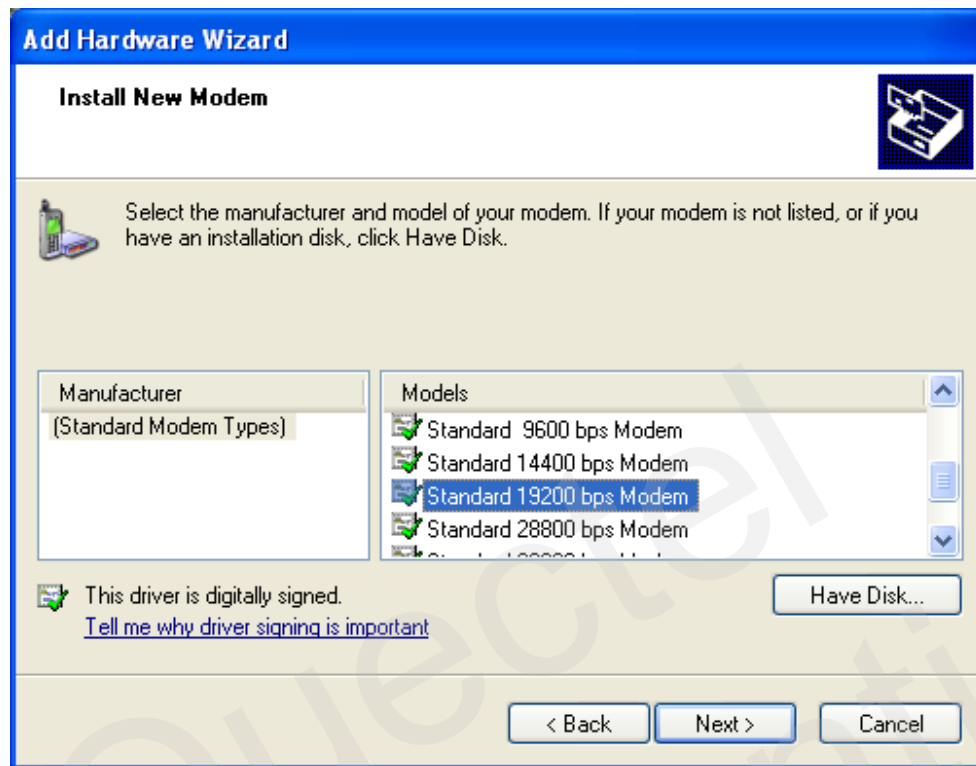
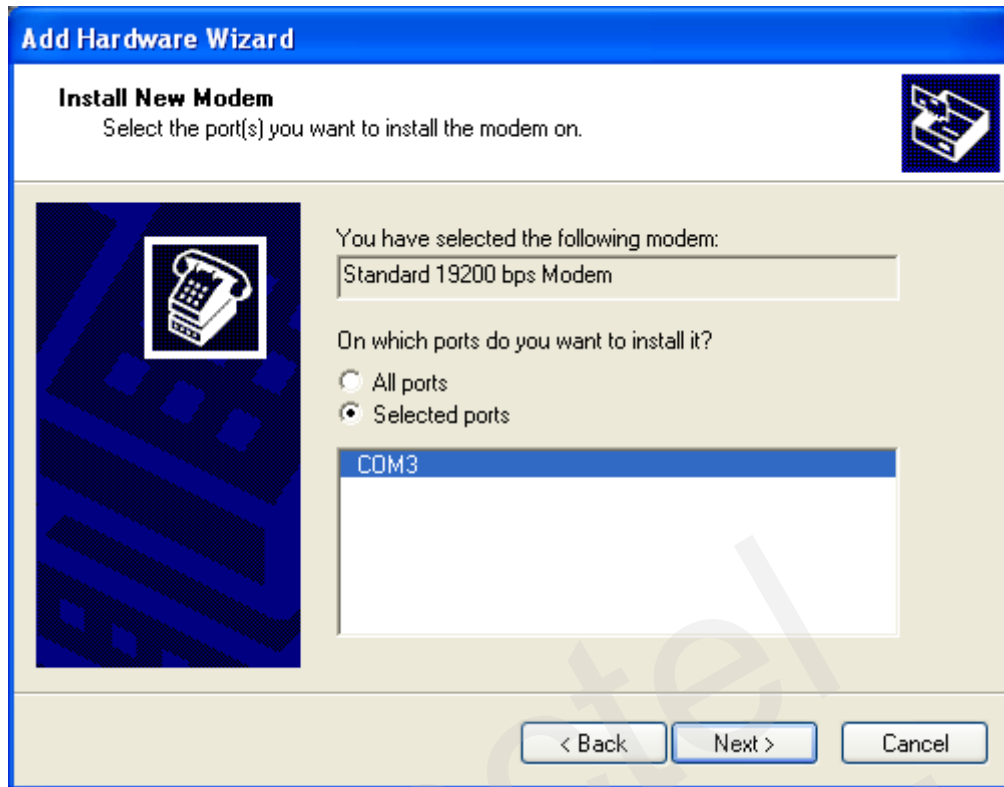
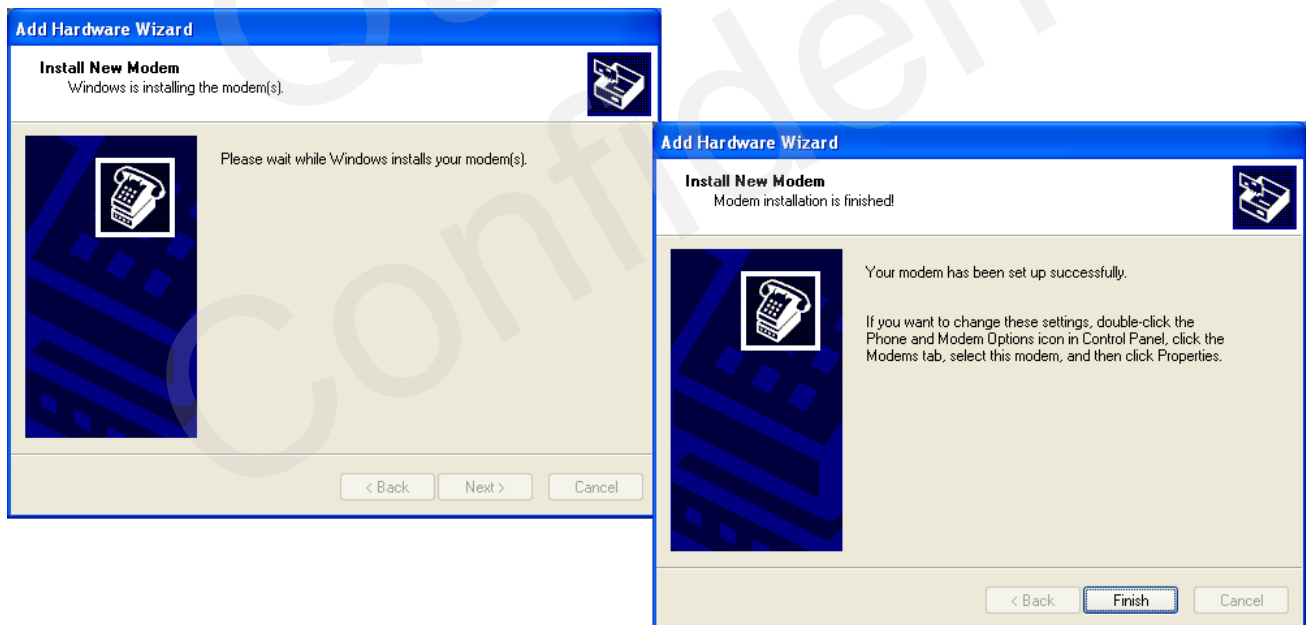

Figure 6: Select Model of the Modem
Figure 7: Select a Port
Figure 8: Installed Successfully
3. Install the new modem according to the instructions on the screen; select **Standard 19200 bps Modem** and a port (**COM3**) which will be installed; click **Next** button, till the configuration is finished. Refer to **Figure 6**, **Figure 7** and **Figure 8**.